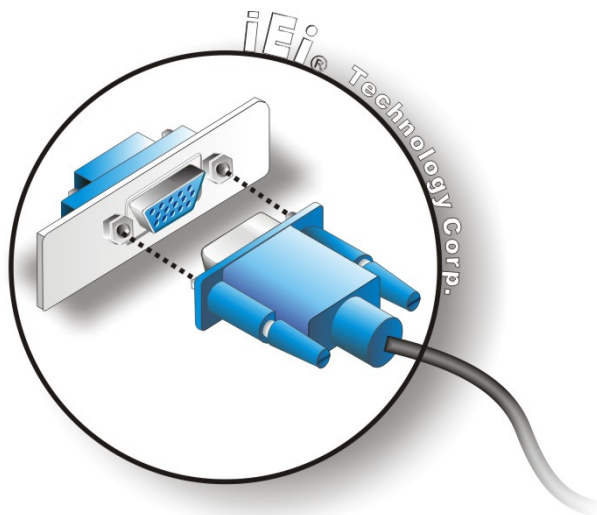

Figure 3-32: VGA Connector
- Step 3:** **Insert the VGA connector.** Once the connectors are properly aligned with, insert the male connector from the VGA screen cable into the female connector on the TANK-700. See **Figure 3-32**.